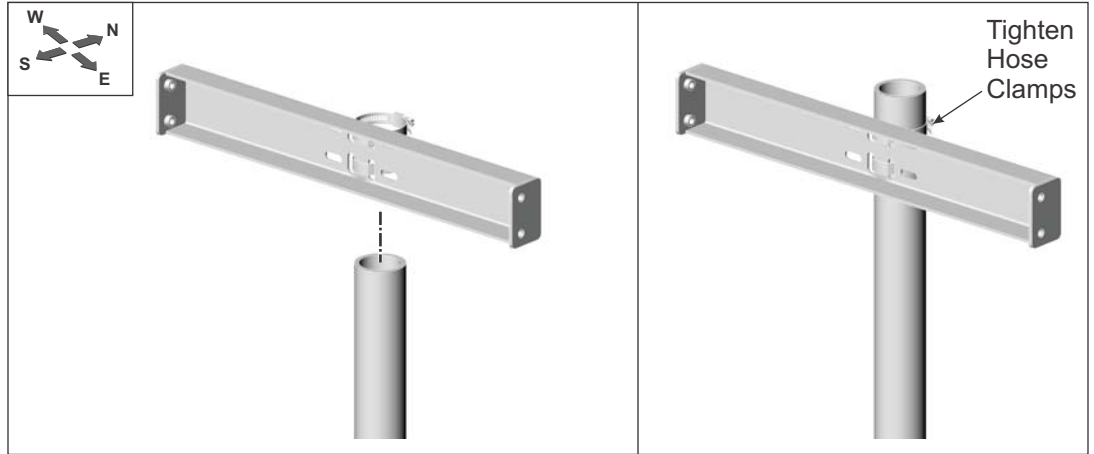

Figure 1-2: Installing Pole Channel
- C. Rotate the Pole Channel so it is facing south. (See Figure 1-2)